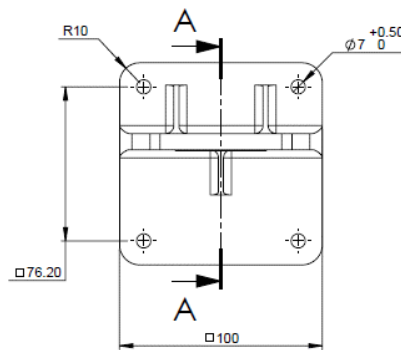

Figure 13 - Tilt Mount Base - Plate View
- a) Mount the tilt mount base (Figure 13 - Tilt Mount Base - Plate View) to a solid structure using four suitable fixings through the four 7mm (0.28") diameter holes. Four captive screws with spring washers are provided in the tilt mount.